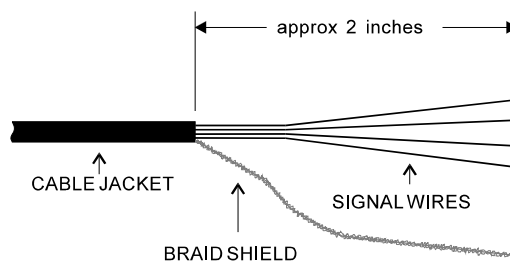

Figure 4: Strain Gage Sensor Cable Stripping
- 1) Strip the sensor cable as shown in Figure 4 below. Be sure not to nick any of the signal conductors or cut the braid shield.